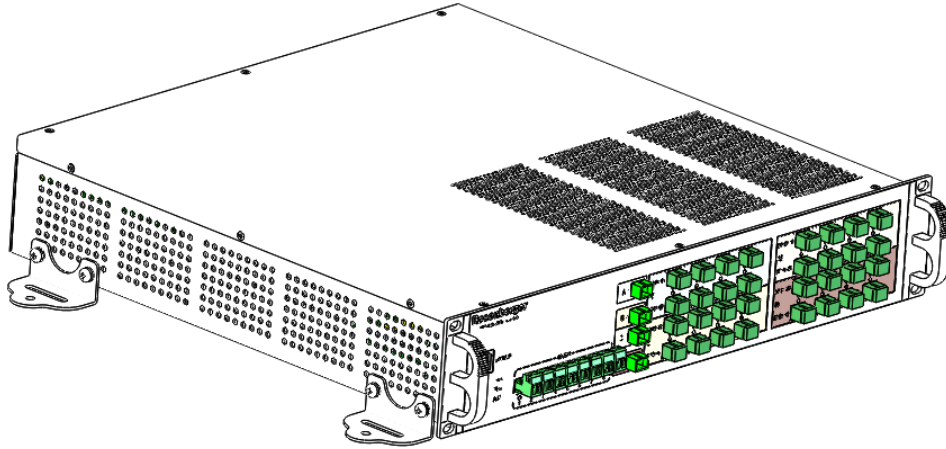

Figure 3-6 Install the mounting support rack
2. Fix the mounting rack onto the NEU by tightening with M5x10 reference to Figure 3-6.